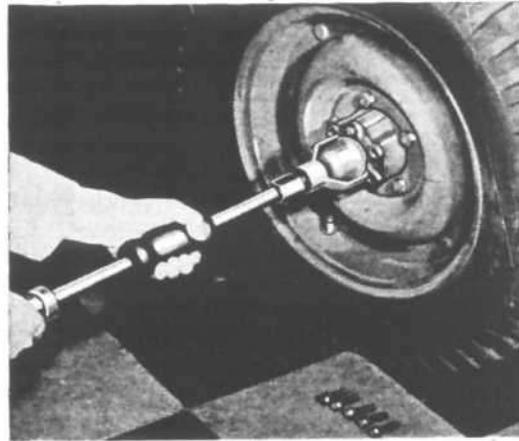

FIG. 227—HUB CAP PULLER
- b. Remove the hub cap with a puller as shown in Fig. 227.